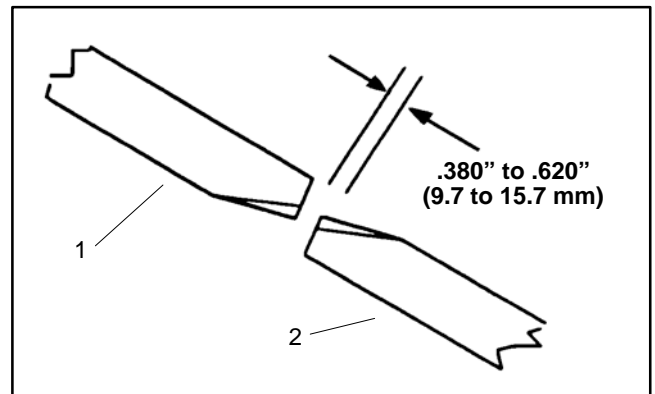

Figure 8
10. Check distance between inner deck blade on wing deck and outer deck blade on center deck. Distance between blades should be .380" to .620" (9.7 to 15.7 mm) (Fig. 8). If blade distance is incorrect, loosen hex jam nut (item 32) on rear link assembly and adjust cap screw (item 31). Tighten jam nut when blade distance is correct.